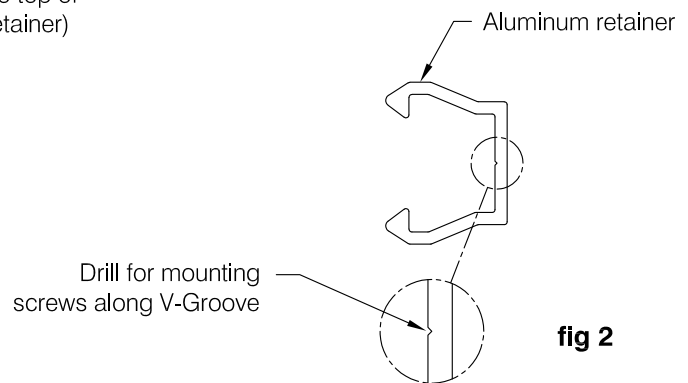

fig 2
Step 3: Pre-drill clearance holes for wall mount fasteners in aluminum retainer along the V-Groove provided, see **fig 2**. Use a #15 (.180") bit for #6 and #8 fasteners or a #7 (.201") bit for #10 and 3/16" fasteners. Space holes approximately 16" on center. Adjust spacing to accommodate studs as necessary.